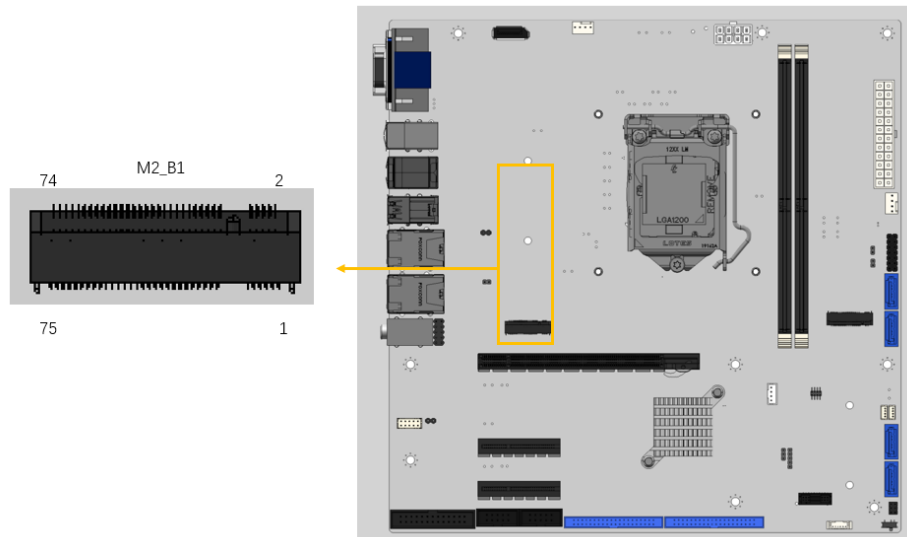

Figure 3-24: M.2 B-key Slot Location
- CN Location:** See Figure 3-24